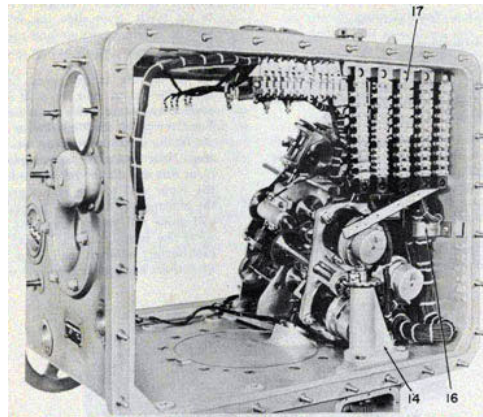

Figure 134-Installing Back Post, Main Cable, and Terminal Blocks.
14. Install the back post. See figure 134. Do not pull down too much on the three mounting bolts until you have made sure the beveled gear on the lower portion of the drive shaft meshes properly with the micrometer adjustment gear on the BTO-2 shaft of the back post. Be sure to place the spacer beneath back post. See figure 134.
16. Now, run main cable up through rubber bushing at left side of director case. See figure 134.
17. Take the five case terminal blocks and screw them in place in the upper left rear portion of the case. The terminal block nearest the center of the case bears the number U2B at the top, the adjoining has the number U2A, the following the number L17, the next number Y1 and the block nearest the left side of the case the number T1. See figure 134.